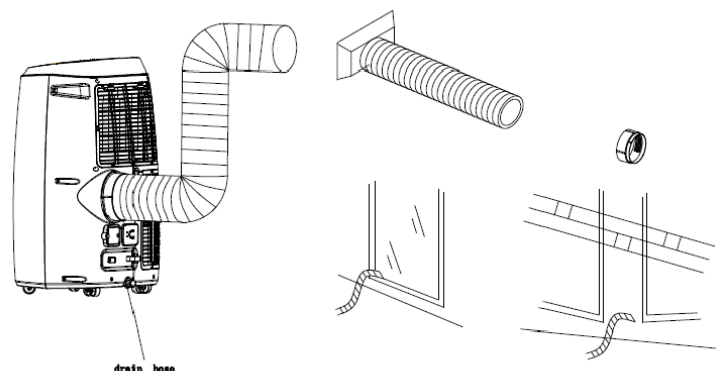

Fig 5b
- 3) Attach the exhaust hose to the unit (Fig 5b)
- b) Attach the machine end connector to the outlet at the back of the air conditioner (Fig.5b).